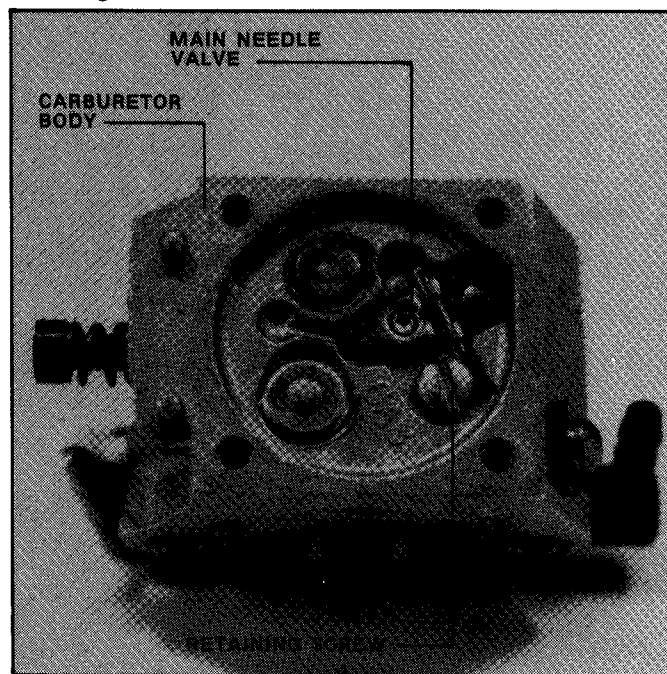

FIGURE 2.4
C. The main needle valve can now be removed from the carburetor body. Being careful not to loose the spring retained under the lever, remove the screw retaining the lever pin. Remove the lever, pin, spring and needle valve. Care should be taken not to damage the point of the needle valve or distort the spring See Figure 2.4.